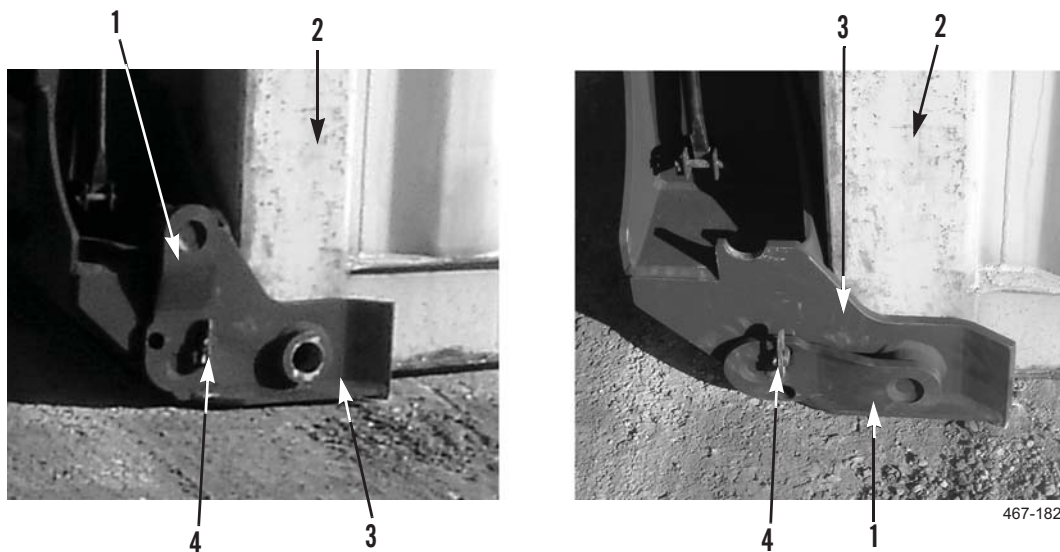

Figure 6. Lock Lower Guides.
1. Check that hole in each lower guide (Figure 6, Item 3) is aligned with aperture in side of corner casting of container (Figure 6, Item 2). Small amounts of misalignment may be acceptable.
2. Release anti-loose fastener (Figure 6, Item 4) that secures lower locking plate (Figure 6, Item 1).
3. Pull out locking plate (Figure 6, Item 1) and rotate it 90° to align locking pin with locking hole in lower guide (Figure 6, Item 3).
4. Push locking plate (Figure 6, Item 1) to fully insert locking pin through locking hole in lower guide (Figure 6, Item 3) and into corner casting.
5. Lock anti-loose fastener (Figure 6, Item 4) to hold locking plate in position.